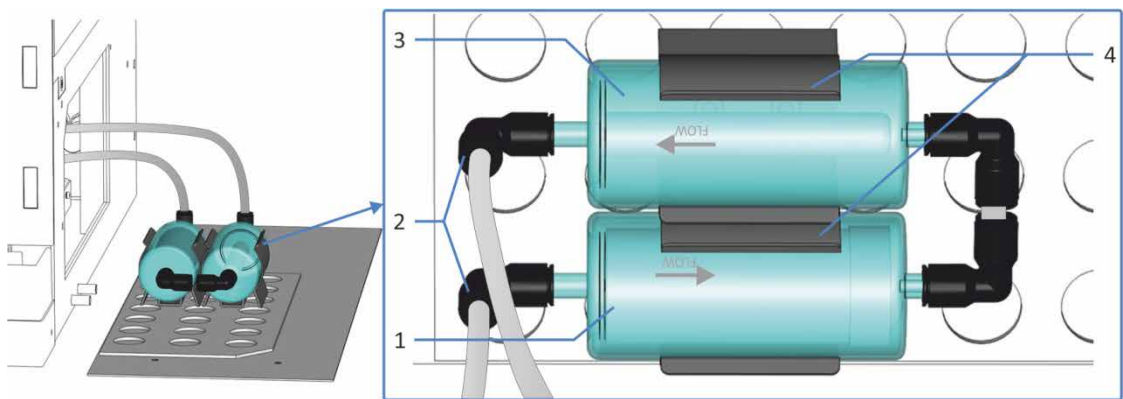

Figure 39: Correct installation of the gas filter assembly
- ◆ The bottom or inner gas filter must be the charcoal gas filter (thick black inner filter cylinder; no. 1 in Figure 39).
- ◆ The top or outer gas filter must be the HEPA gas filter (thin white inner filter cylinder; no. 3 in Figure 39).